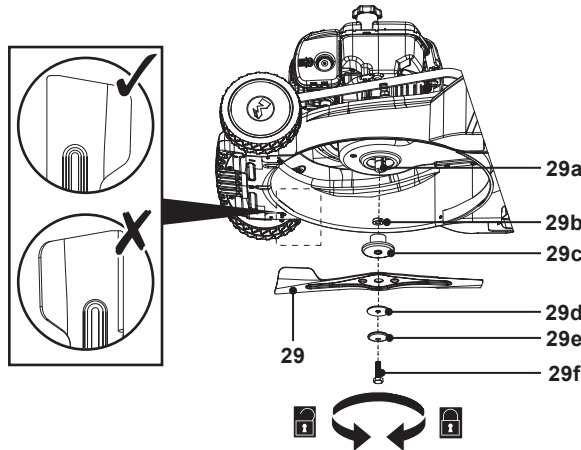

Fig. 25
1. Keep the underbody and cutting device (29) clean and free of debris. Remove clippings from the rear discharge chute (30).
2. Check all nuts and bolts periodically for tightness before operation. After prolonged use, especially in sandy soil conditions, the cutting device (29) will become worn and lose some of the original shape. The cutting efficiency will be reduced and the cutting device should be replaced.
3. Keep the cutting device (29) sharp to ensure a good cutting performance. Replace a worn or damaged cutting device with a new one of the same type or have it sharpened by a qualified specialist.
4. If jacking the product is not possible, tilt it to the right side so that the fuel tank cap (12) side is up. This helps to prevent fuel leakage and harder starting due to flooding of the carburetor (17).
5. Loosen the hex bolt (29f) anticlockwise using a suitable wrench (Size 17mm) and remove it together with the cup washer (29e), the locking flange (29d), the cutting device (29), the blade holder (29c) from the spindle (29a) (Fig. 25).
7. Replace the cutting device (29) with a new one of the same type. Check the status of the flange onto the blade holder (29c), attach the cutting device (29) properly, then attach the locking flange (29d) and ensure the two pins located into the groove of the flange of the blade holder (29c), fix the assembly with the cup washer (29e) and hex bolt (29f). Tighten the hex bolt (29f) clockwise with 40-45 Nm to ensure safe operation of your product (Fig. 25).